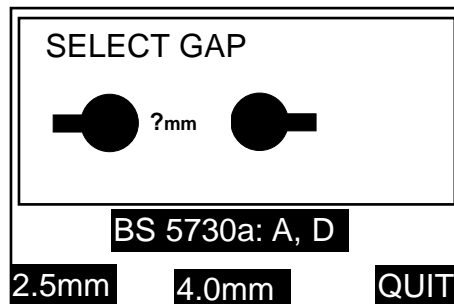

Figure 19. BS5730a electrode gap selection display screen.
4. The display now changes to appear similar to figure 19. Press the left or centre key to select the electrode gap setting of either 2,5mm or 4,0mm. Pressing QUIT returns to the previous sub display.